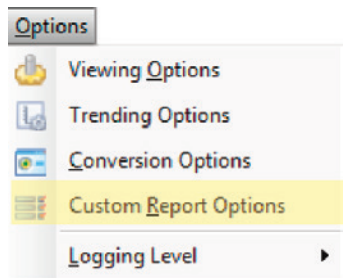
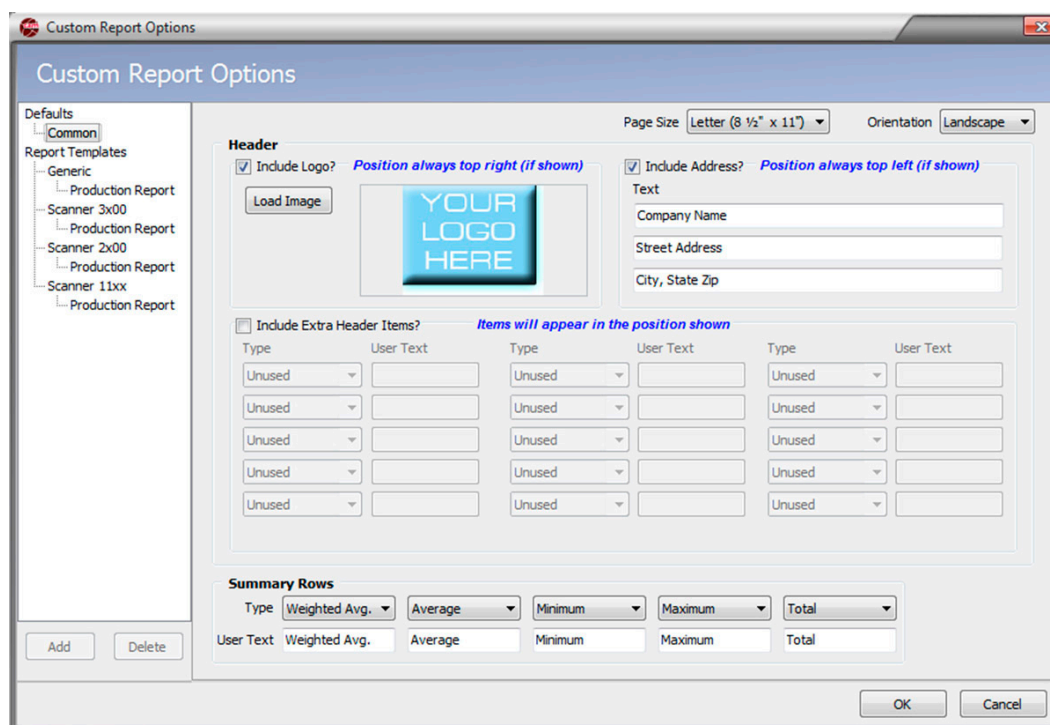

Figure 4.10—Options>Custom Report Options
Figure 4.11—Custom Report Options screen showing Common Defaults dialog
3. Generate a custom report using the *Custom Report Options* dropdown menu accessed from the main screen. See Figure 4.10, page 50 and Viewing and Printing a Custom Report, page 57.
To establish these defaults, choose **Options>Custom Report Options** (Figure 4.10). The dialog will automatically open to the *Common Defaults* screen (Figure 4.11).
A basic set of parameters, such as device/meter name, company name, site/well name, firmware version, and device serial number, is included in the standard header of all reports. However, custom reports allow the user to include other configuration items in a second header (Figure 4.11, page 51). The user can select which parameters to include and change the text description used to identify a parameter by entering text in the “User Text” field. Extra header selections available will vary, depending on the device used to generate the archive file.